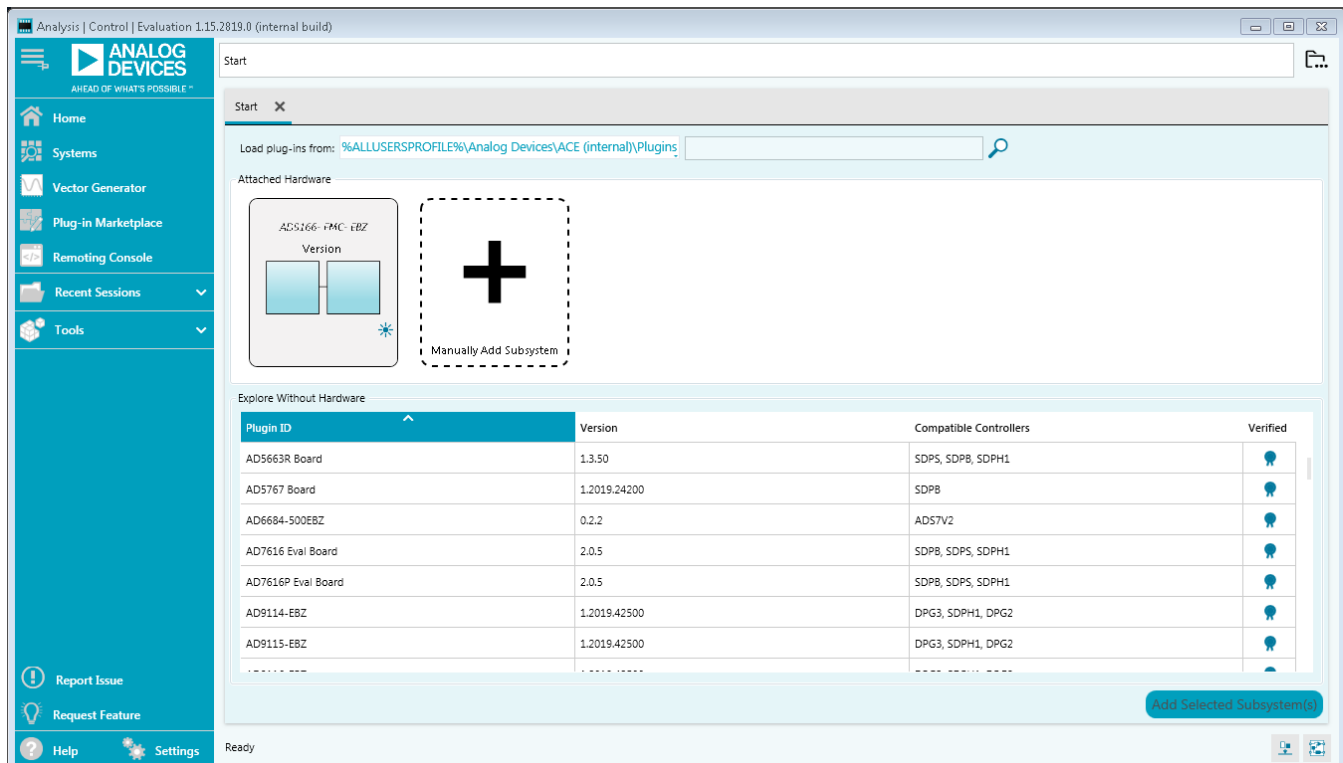

Figure 5. ACE Software Window
2. Open the ACE software from **Start > Programs > Analog Devices > ACE**. A window appears similar to Figure 5.
3. Open the evaluation board view by double clicking the AD9166-FMC-EBZ evaluation board icon, as shown in Figure 5.
1. Open the ACE software from **Start > Programs > Analog Devices > ACE**. A window appears similar to Figure 5.
2. Open the evaluation board view by double clicking the AD9166-FMC-EBZ evaluation board icon, as shown in Figure 5.